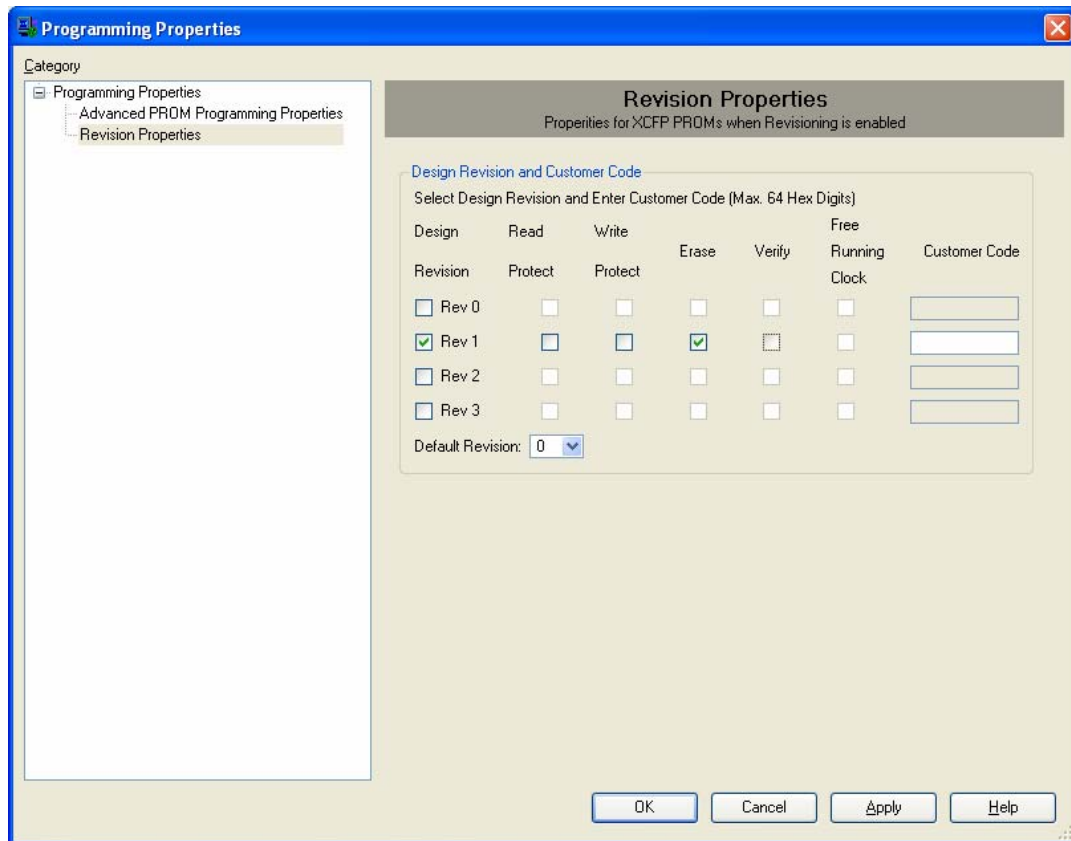

Figure 4: Revision Properties
- Now click on 'Revision Properties' in the left tab. Here, uncheck Rev0 and select Rev1. In Rev1, check the Erase (ER) bit and make sure the write protect (WP) bit is not set. Then click 'Ok'. This is shown in Figure 4 below.